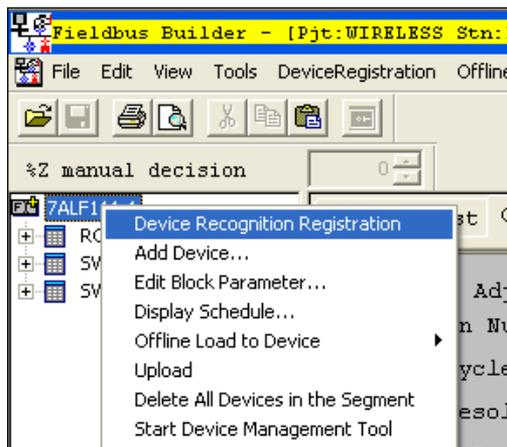

Figure 76 - Device Recognition Registration
1. From the Fieldbus Builder, right-click on the segment and select **Device Recognition Registration** from the menu (Figure 76).